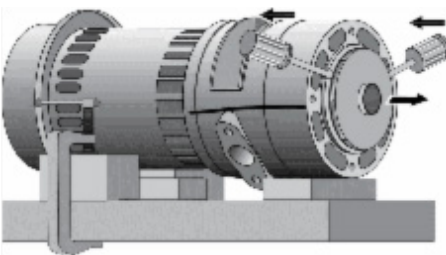

Figure 19
9. The impellers are keyed to the shaft and do not unscrew. Inset two screw drivers on opposite sides under the exposed impeller and pry the impeller off (Figure 19) to remove it.